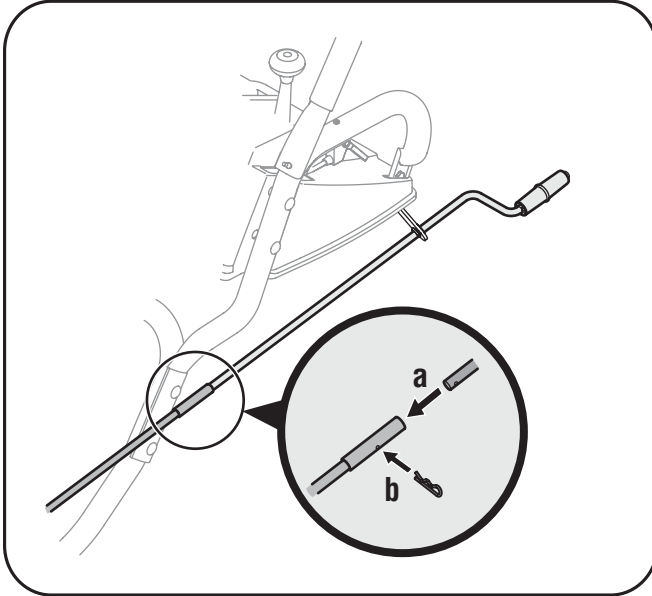

Fig. 3-3
- Remove the hairpin clip from the upper chute crank and slide the upper chute crank into the lower chute crank. A pair of pliers may help in this job. See Figure 3-3.
- Align the two holes on both chute cranks. See Figure 3-3.